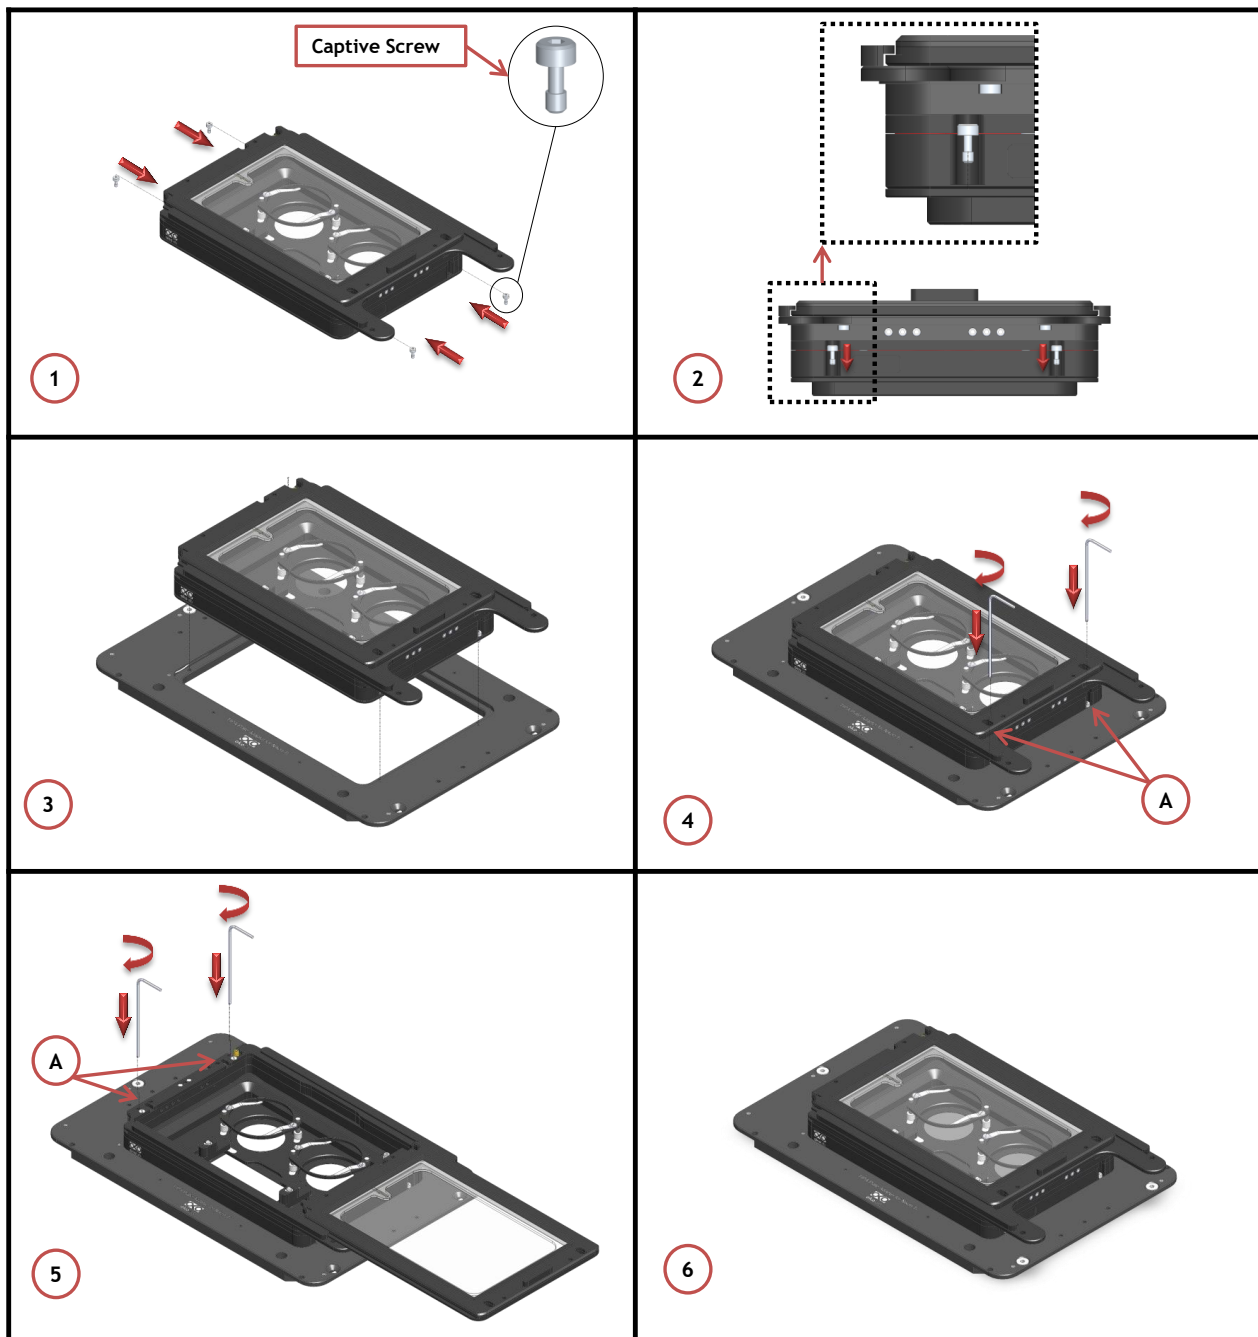

Figure 23. How to assemble the chamber to the adapter.
Follow the steps shown in the images of Figure 23 and listed below in order to correctly install the chamber onto XY stage:
1. Follow the arrows shown in Figure 23 Images 1 and 2 for placing the captive screws in the proper housings
2. Place the chamber on the adapter as shown in Figure 23 Image 3
3. Use a 1.5mm metric Allen Wrench to tighten two of the four captive screws in place (A in Image 4) while keeping the sliding lid closed. (See Figure 23 Image 4)
5. Image 6 of Figure 23 shows the chamber fixed on the adapter